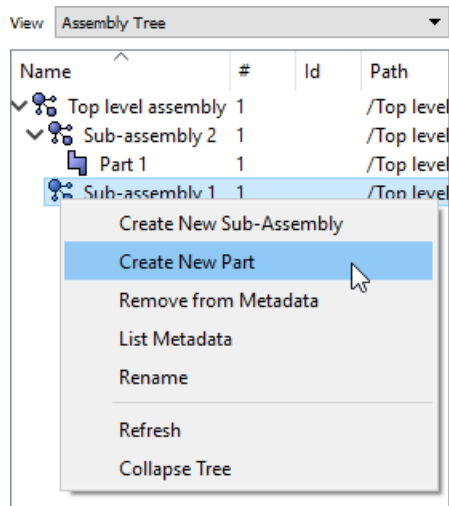
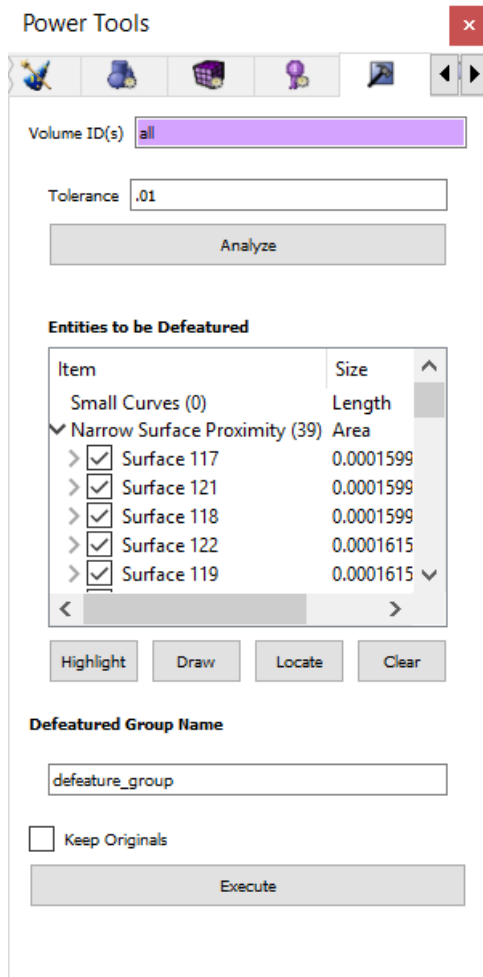

Figure 2 - Assembly Context Menu
Figure 1 - Defeature Power Tool
Step 1 requires specifying volume ids (e.g. all) and a tolerance (e.g. 0.6) as shown in Figure 1. Clicking “Analyze” button will automatically find small curves and surfaces in the volumes specified. Figure 2 shows the highlighted small curves and surfaces with the label information. Figure 3 shows a zoom view of a small surface.
In Step 2 the user is allowed to deselect entities by unchecking entities from the list “Entities to be Defeated”. Users can also use “Highlight”, “Draw”, and “Locate” buttons to examine the automatically detected entities (see Figure 2).